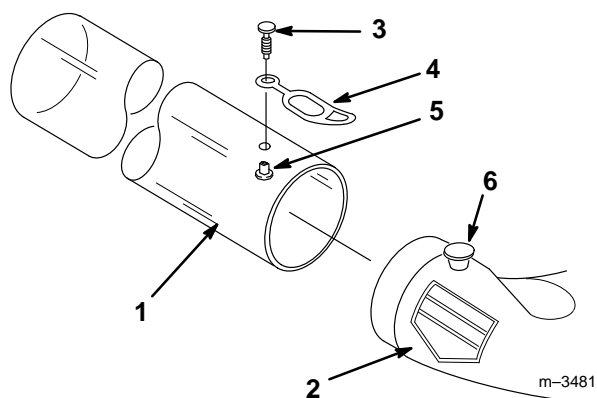

Figure 4
1. Secure the retainer to the duct with the barbed clip and spacer fastener (Fig. 4).
2. Slide the duct over the end of the chute, aligning the retainer with the knob on the chute. Pull the retainer over the knob, securing the duct and chute (Fig. 4).
1. Disconnect the retainer on the duct from the knob on the chute and pull the duct free from the chute and grass bagger (Fig. 4)